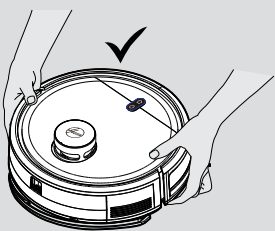

Fig. 22
**IMPORTANT:** Always make sure your device is switched off before maintenance. Always use two hands to lift and carry, and ensure the robot is held level. [Fig. 22]